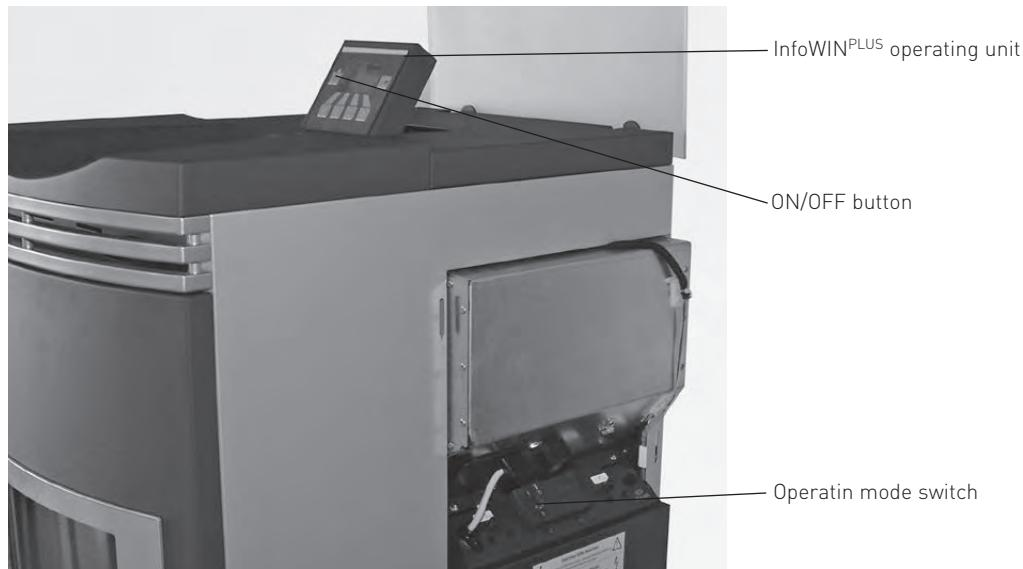

Fig. 122 FireWIN with MES^{PLUS} system control
2. If the boiler has been out of service for an extended period during the summer months, press the ON/OFF button  on the InfoWIN^{PLUS} unit – Fig. 122.